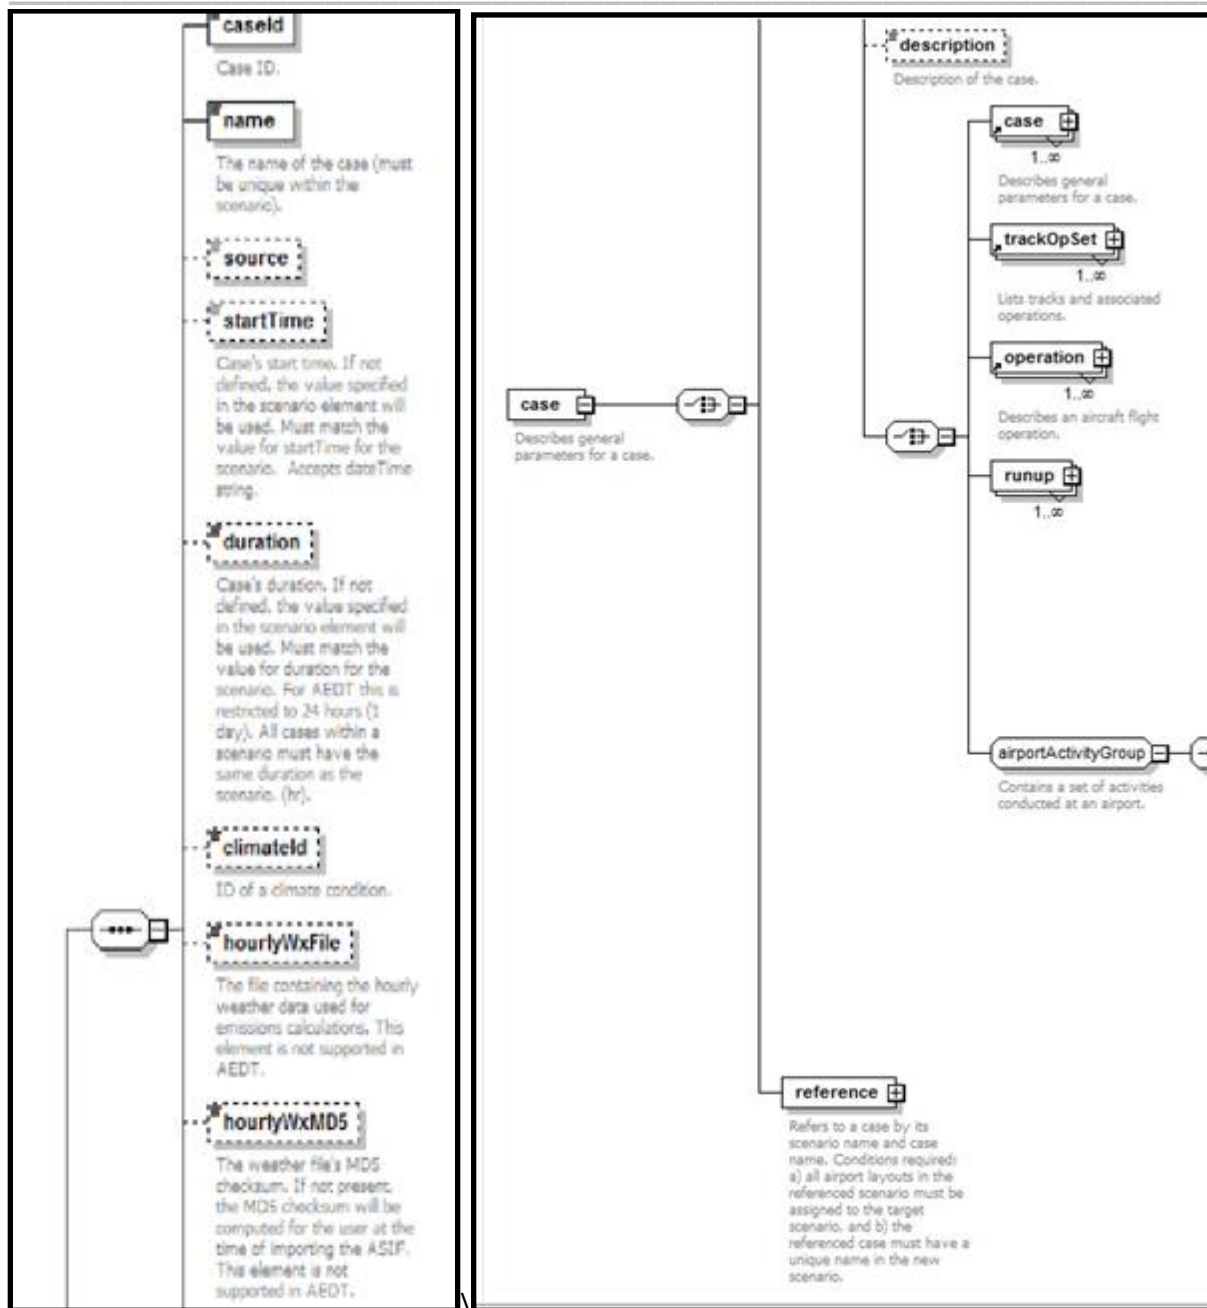

Figure 45- XML element case
7. AsifXml/study/scenario/case (Figure 45):